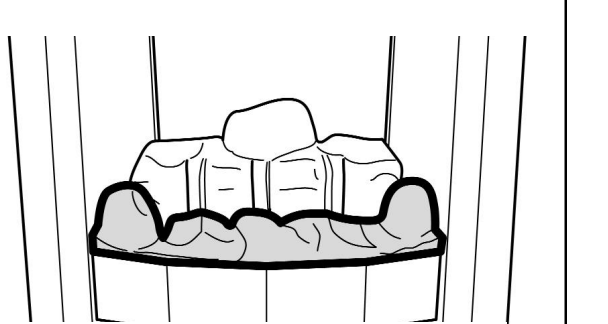

Figure 27 Front base pebble position
2. Place the front base pebble in the firebox with its bottom front locating over the front rim of the firebox. Pull the pebble forward so that it locates immediately behind the front rim of the firebox (See figure 27). The front base pebble will touch the rear base pebble as it is located.